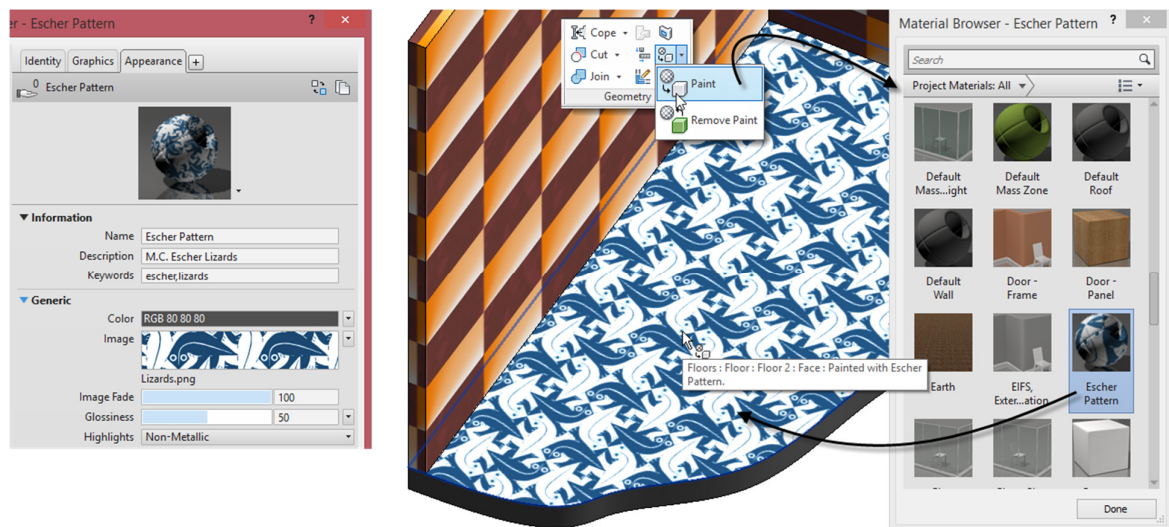

Figure 20—Apply the new material with the paint tool
- ⇒ Paint the new Escher material onto one of the top surfaces of one of the floors in the model (see Figure 20).